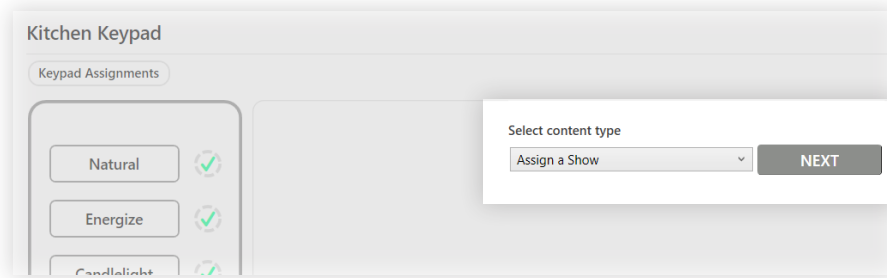

fig. 51
- 3 Select “Assign a Show” in the content type dropdown, then click **NEXT**. See fig. 51.